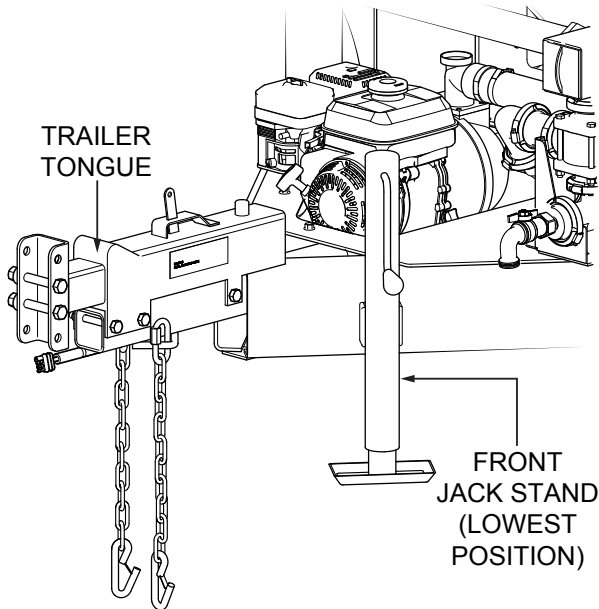

Figure 27. Lowering Trailer Tongue
7. Once water appears to have all been drained, lower front trailer tongue by lowering front jack stand to the lowest position (Figure 27).